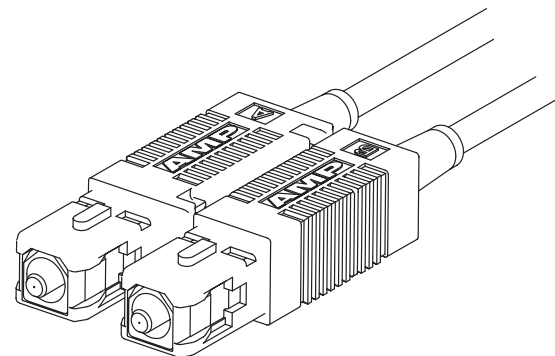

Figure 19
2. Figure 19 shows a completely assembled multimode duplex connector.